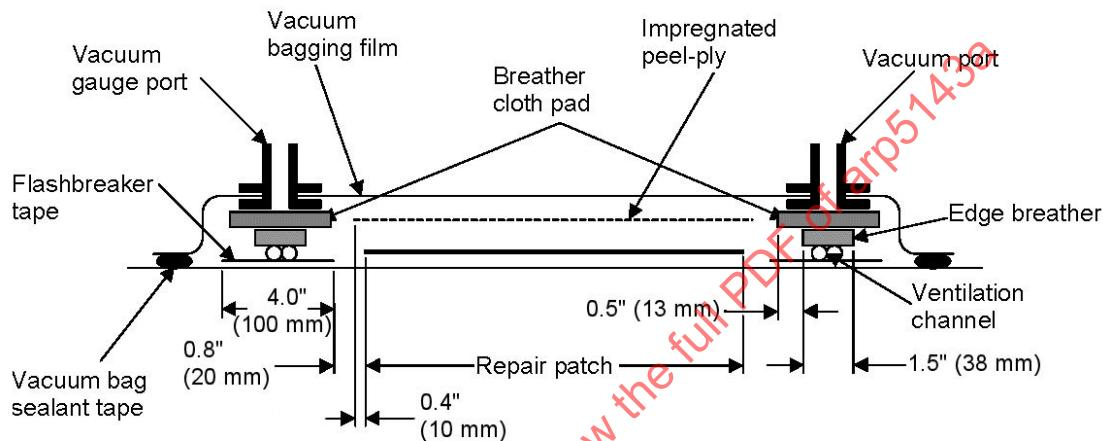

Figure 11 - Method 3 - squeeze out method vacuum bag
Refer to the Installation Procedures in Sections 4 through 7 for more detailed information (Figure 11).
- d. Place several strips of narrow breather material over the rope approximately 4 inches (100 mm) from the edge of the largest repair ply around the repair. Keep 0.5 inch (13 mm) away from the peel ply. Refer to Figure 11.